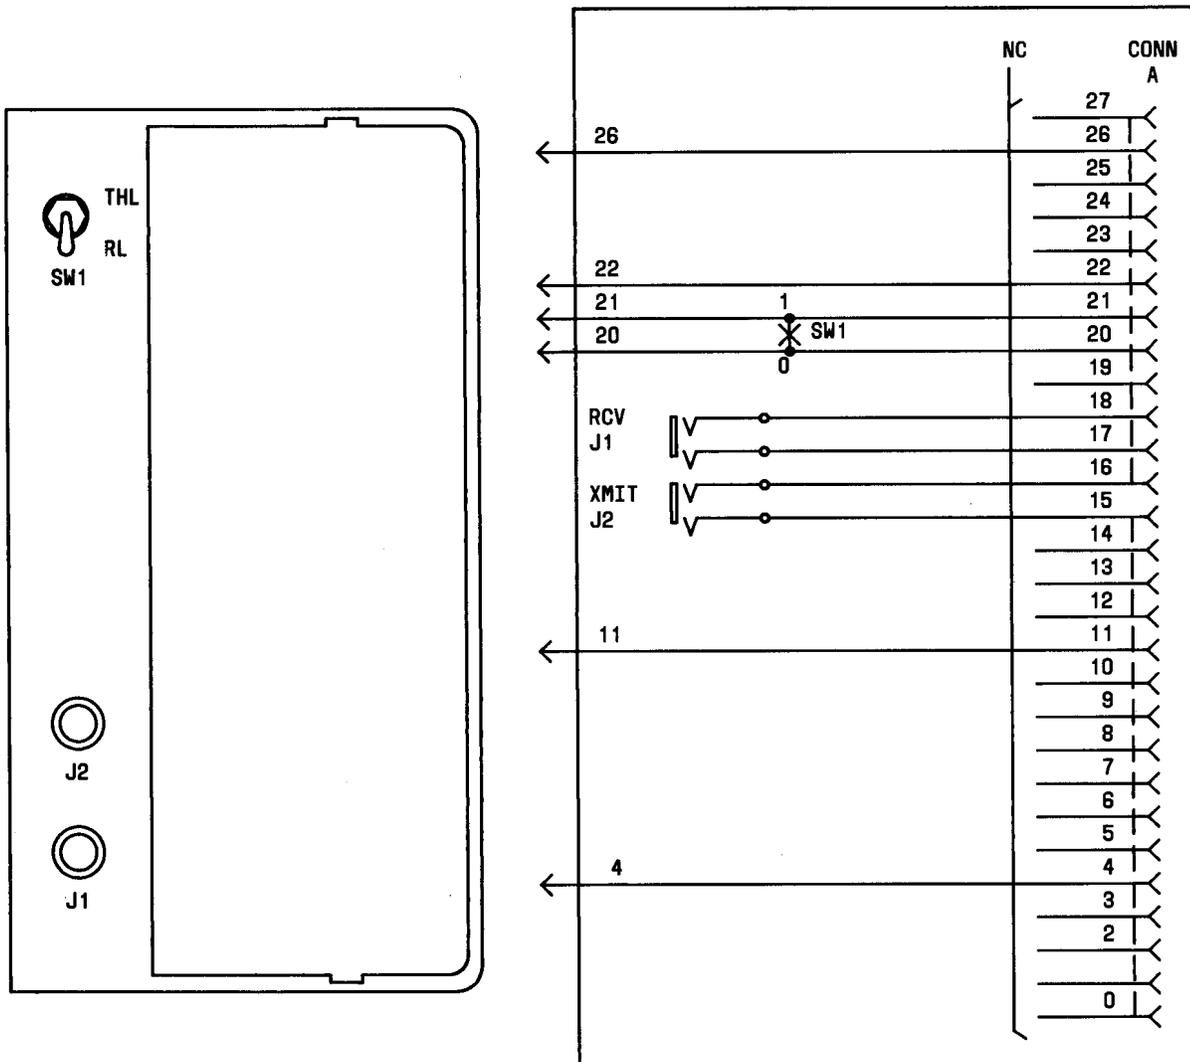

Fig. 11—956A Extender Tool
2.32 956A: The 956A extender tool (Fig. 11) is used during the adjustment procedure of 4-wire trunk hybrid balancing networks of the Common Channel Interoffice Signaling (CCIS) Continuity Check Transceiver or the CCIS Continuity Check Diagnostic Test Circuit.